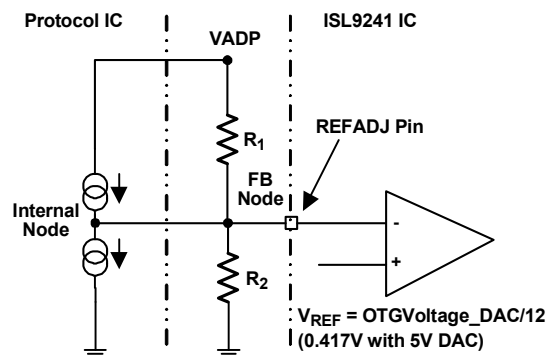

Figure 38. Simplified REFADJ Application
The schematic shown in Figure 38 on page 54 shows how the REFADJ pin is tied to the feedback (FB) resistor divider node off the VADP node for a quick charge protocol IC. This schematic sets up the FB node to use the reference voltage of 0.417V from ISL9241, but the output on the VADP node can be set up to any voltage over the standard operating range using the R_1/R_2 ratio.